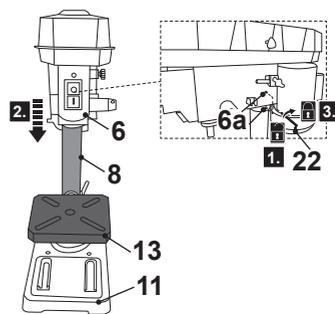

Fig. 3
1. Loosen the two locking bolts (6a) anticlockwise using the supplied 4mm hex key (22), but don't remove them (Fig. 3, step 1).
2. Place the machine head (6) onto the column (8) (Fig. 3, step 2).
3. Press the machine head (6) downward onto the column (8) as far as it will go.
4. Align the machine head (6) to the forward facing position with the drill table (13) and the base (11).
5. Tighten the two locking bolts (6a) clockwise with the 4 mm hex key (22) (Fig. 3, step 3). Do not overtighten.